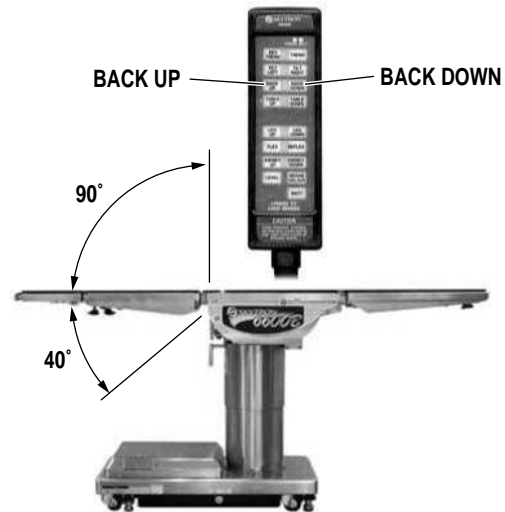

Figure 3-6. Back Section Positioning
d. Back Section. To raise the back section, press the BACK UP button (figure 3-6). The back section will raise up to 90° above horizontal. To lower the back section, press the BACK DOWN button. The back section will go down to 40° below horizontal.